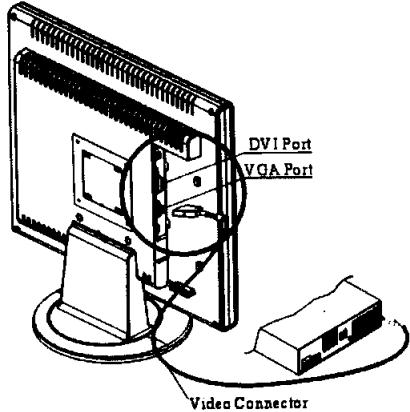

Figure 1-4
2. Connect one end of the signal cable to the LCD Monitor's VGA port or DVI port. (See Fig. 1-4)